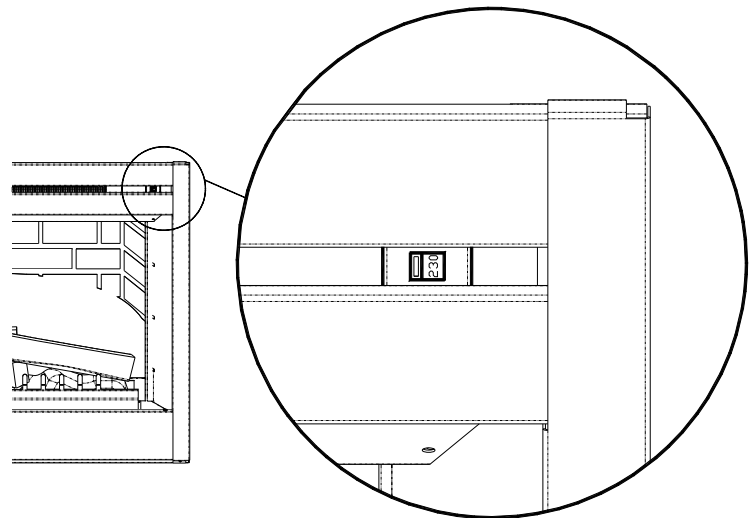
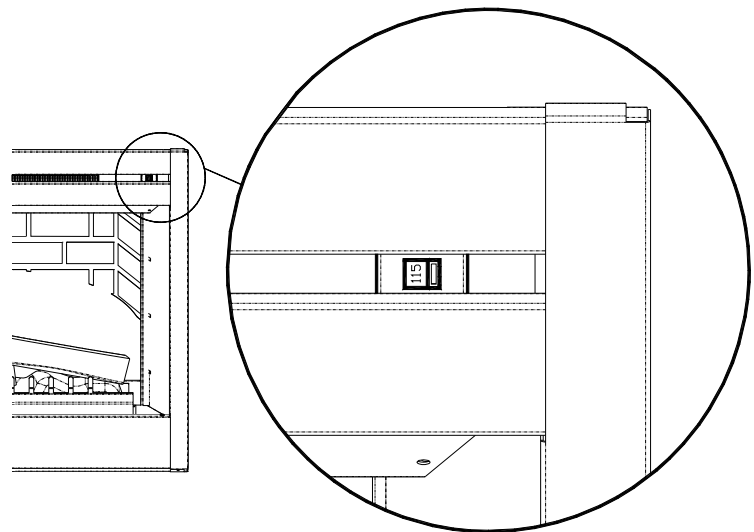

Figure 1
Figure 2
6. Unit is factory wired for 208/240 volt power supply (**see figure 1 on page 3**). If 120 volt operation is required, slide the switch and reconfigure the wiring (**see figure 2 on page 3**). Wires L1, L2, N & G are attached to the rear of the junction box cable clamp for easy access.
When wiring the unit for 208 / 240 volts the voltage selector switch should be in the 230 volt position. (see figure 1)
When wiring the unit for 120 volts the voltage selector switch should be in the 115 volt position. (see figure 2)
1. Locate the voltage selector switch inside the exhaust panel on the top right hand corner of the unit. (see figure 1 on page 3)
1. Locate the voltage selector switch inside the exhaust panel on the top right hand corner of the unit. (see figure 2 on page 3)